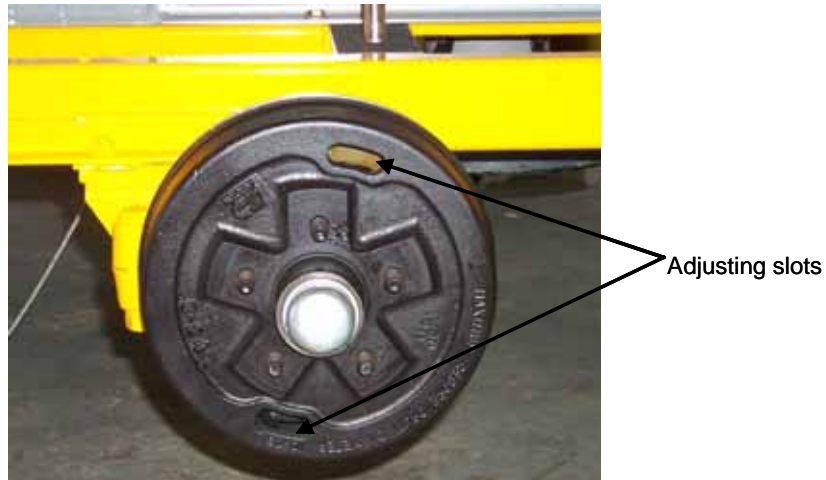

Figure 17. Brake drum with adjusting slot.
- Adjust the brake shoe adjuster (figure 17). This will determine the brake drum to brake shoe clearance. It is recommended that shoes be adjusted out until the drum just starts to lightly drag from contact. Do *not* over adjust; doing so may cause the wheels to lock up. If a lockup occurs, reduce the shoe to drum clearance. Depending on the brake drum manufacturer, some adjusting slots are on the front of the brake drum, while some are located on the back plate.